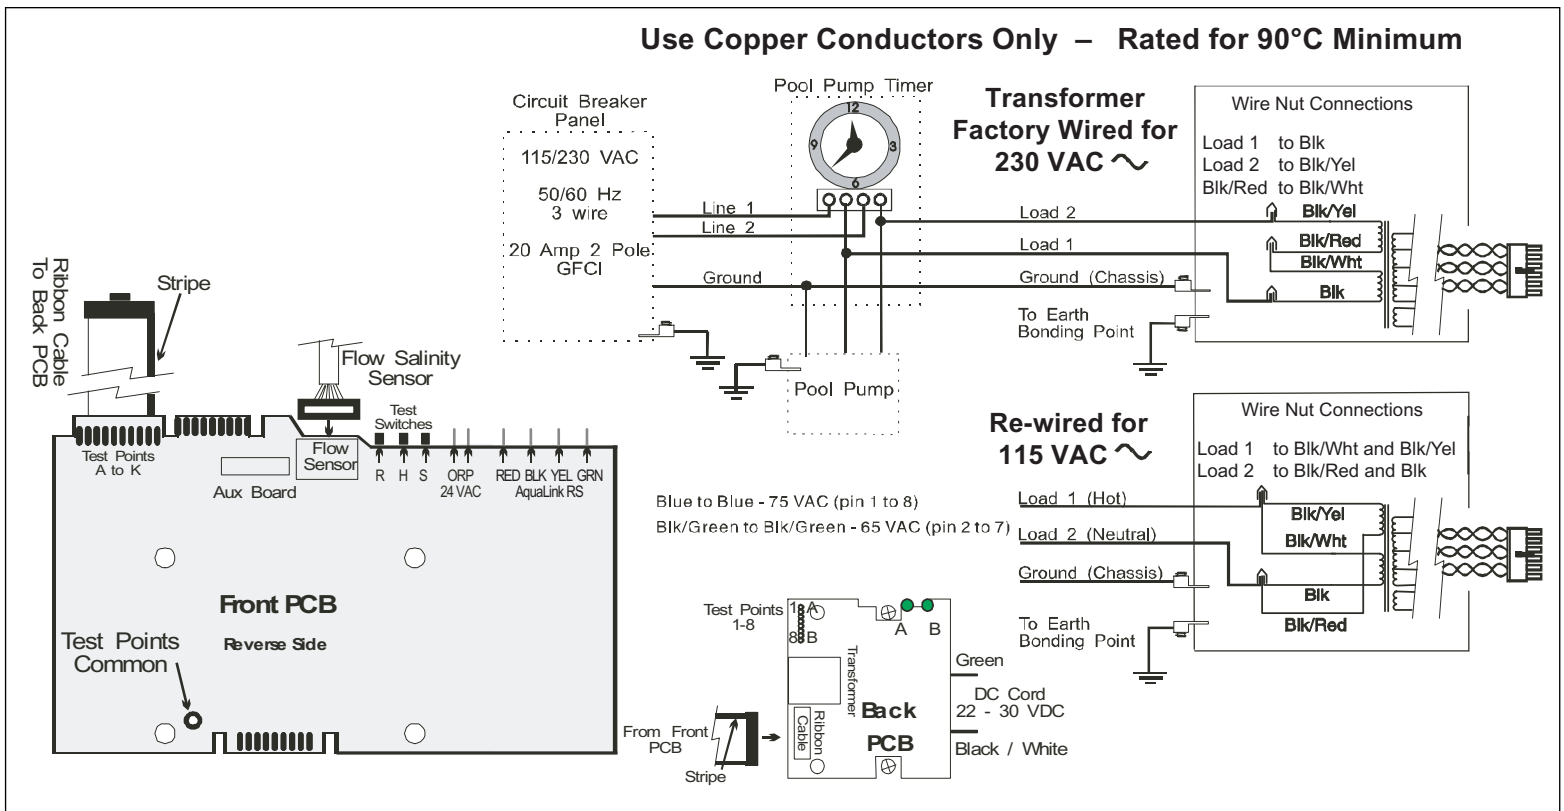

Figure 2. PURE700 and PURE1400
**Factory wired for 230 VAC service.** If available electrical service is 115 VAC, the power supply wiring must be changed to operate on 115 VAC as shown in the wiring diagram below. (Figure 2.)
6. Check source voltage. (All units are factory wired for 230 VAC). ***In order to use on 115 VAC, the internal factory wiring of the control center must be changed. (See wiring diagram page 6 Figure 2).***
7. Use #12/3 insulated wire and conduit. Wire control center transformer to pool pump power source. The control center should be connected to the pump motor switch or automatic timer (Pool Pump Timer) as shown in the diagram on page 6 Figure 2. ***The flow portion of the Flow/Temp/Salinity Sensor is a backup device only.*** Attach the third wire (**Ground**) from the electrical panel to the ground point inside the Control Center. ***Earth bonding in Section 3.4 must also be accomplished to insure personal safety and safety of equipment.***
9. Feed the connector end of the Flow/Temp/Salinity Sensor cable through the DC cord strain relief fitting located in the bottom of the control center chassis backplate. **Be certain the connector is clean and dry**, then plug the cable into the connector on the control center Printed Circuit Board as shown on page 6 Figure 2. **(Do not pull Flow/Temp/Salinity Sensor cable too tight, allow a little slack).**
11. Connect the DC cord to the Control Center. Feed the DC cord through the same strain relief fitting as the Flow/Temp/Salinity Sensor. Plug the DC cord into the two push-on connectors located on the control center Printed Circuit Board as shown in Figure 2 on page 6.
14. Plug the ribbon cable attached to the front cover PC board into Printed Circuit Board mounted on the backplate (See page 6 Figure 2). Now reattach the control center front cover to the backplate.